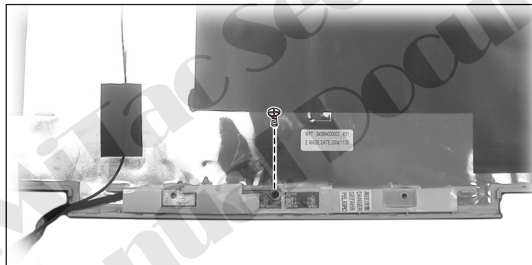

Figure 2-24 Free the inverter board
2. Remove the one screw fastening the inverter board, then free the inverter board. (Figure 2-24)